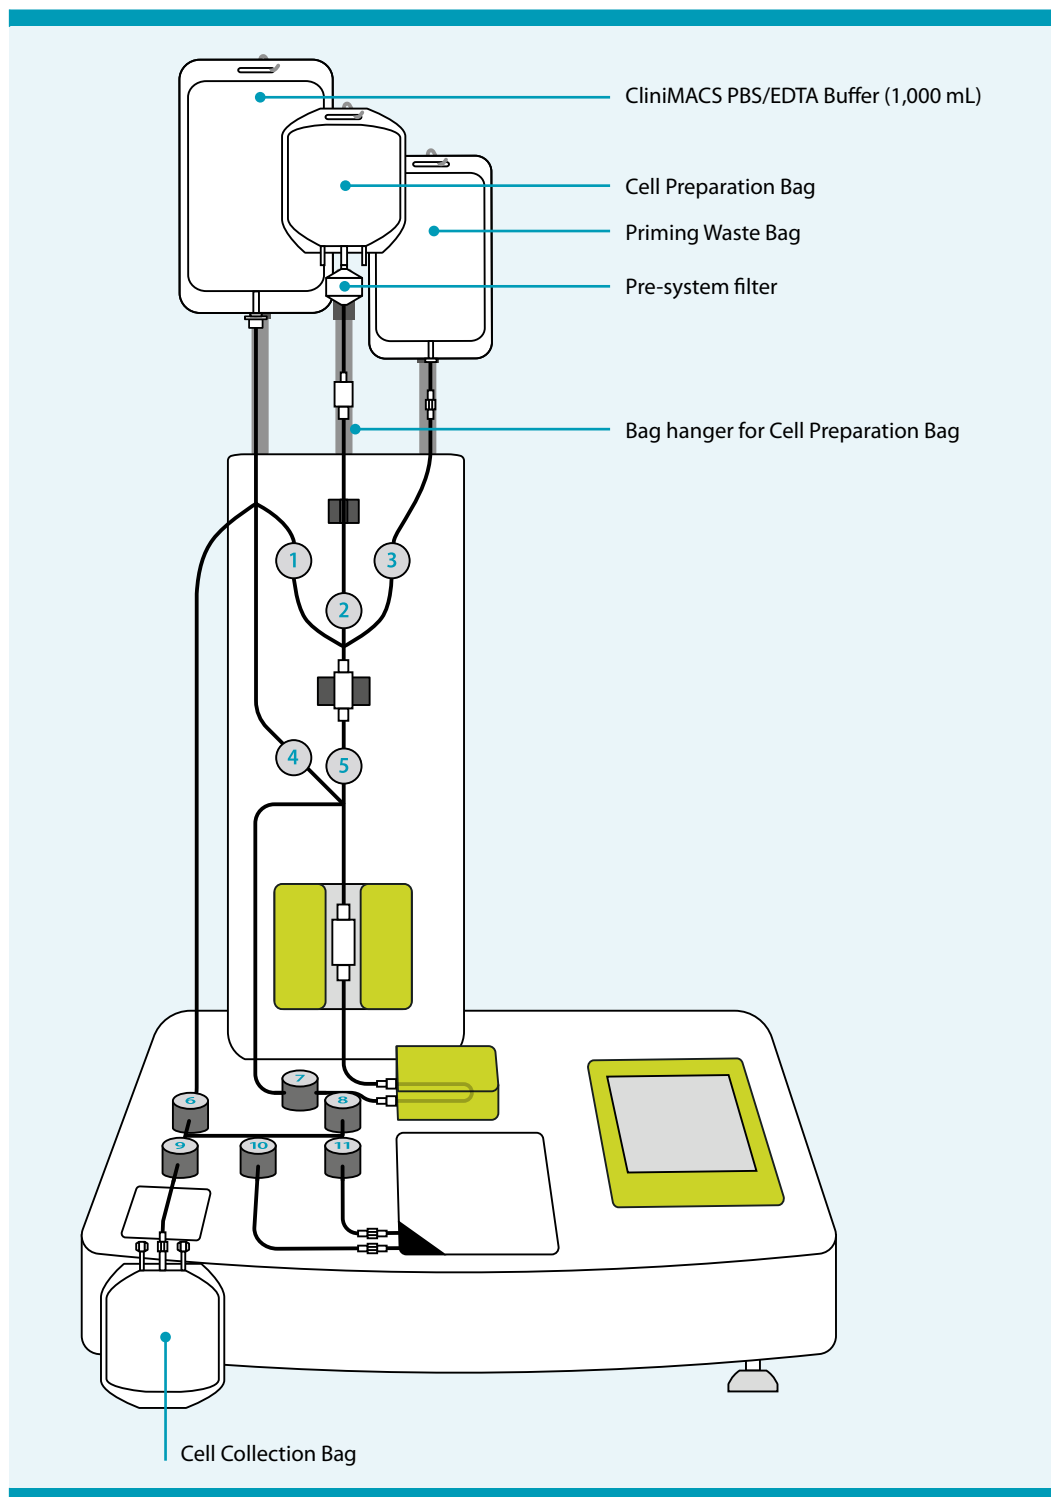

Figure 7.10: CliniMACS Plus Instrument with CliniMACS Tubing Set TS, CliniMACS PBS/EDTA Buffer (1,000 mL), Cell Preparation Bag, and Cell Collection Bag
2. Remove the cap from the blunt end of the pre-system filter (see Figure 7.10). Firmly insert the spike into the pre-system filter.